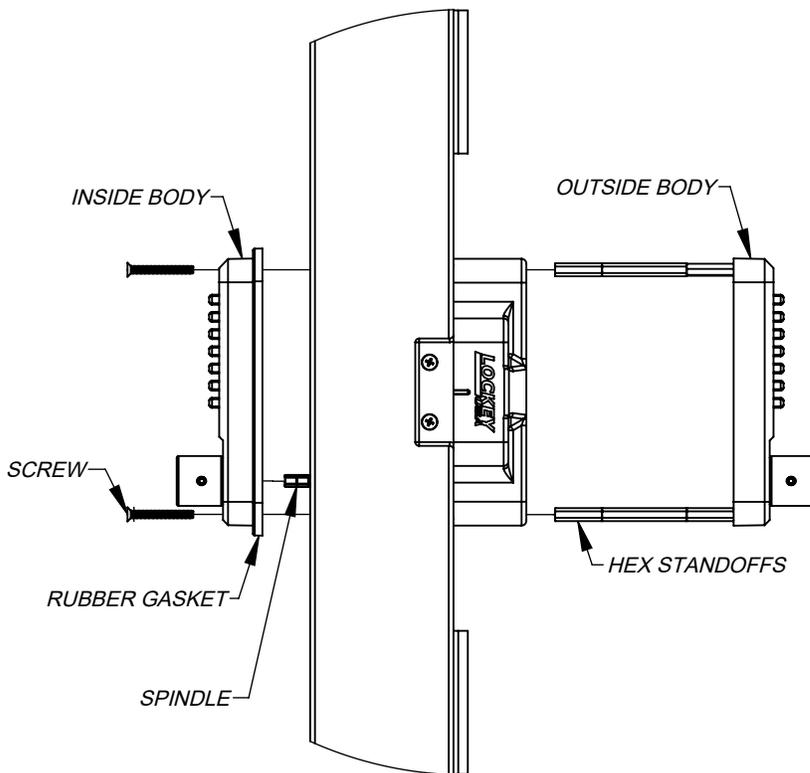

Figure 15
6) Insert the 2835 outside body into the Adapter Housing, with the hex standoffs passing through the hex standoff holes, and with the spindle properly oriented in the spindle hole (Figure 15). Hold the 2835 inside body up to the inside surface of the gate at the proper location, with the spindle inserted properly into the spindle hole of the inside body. Use the screws selected in Step 3 to attach the inside body to the outside body.